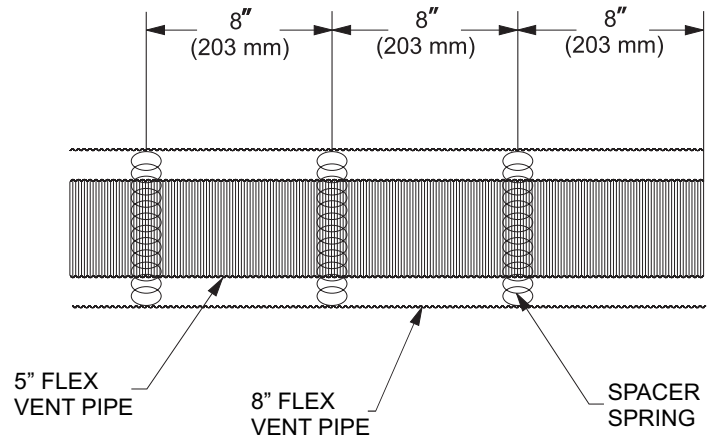

Figure 51
5. Install the Wall Firestop/Thimble assembly as required through the wall. Refer to the venting charts in the fireplace manual to determine the proper height and size of the vent opening. The minimum opening should be 10" wide by 12" high. The minimum combustible clearance from the horizontal vent is 1" from sides and bottom, and 3" above the vent pipe. See Figure 51.